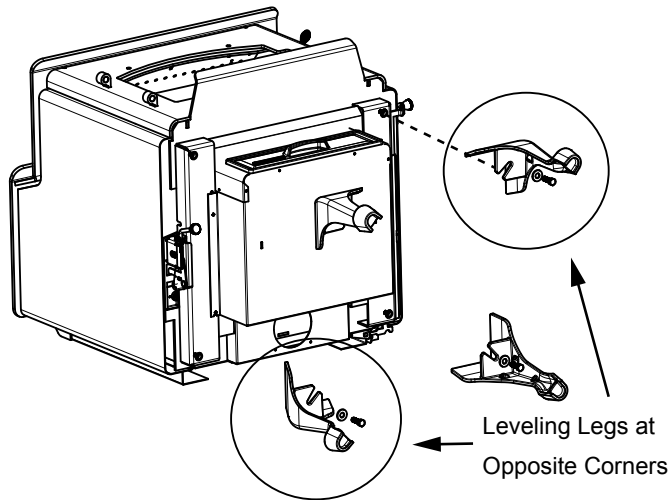

Figure 19.1
4. Install legs onto mounting brackets making sure the legs are up against the bracket and secure with bolts and washers using a 3/8 open end wrench (Figure 19.1 on page 19).
5. Install leveling bolts into 2 legs; these leveling legs should be in opposite corners (Figure 19.1 on page 19).